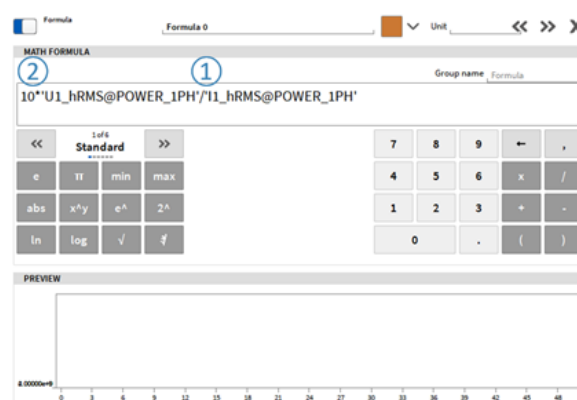

Fig. 7.70: Basic math operations for arrays
- Basic math operations for arrays with same dimensions supported (see ① in Fig. 7.70): + - * /
- Operations (+ - * /) with arrays and constants (see ② in Fig. 7.70)